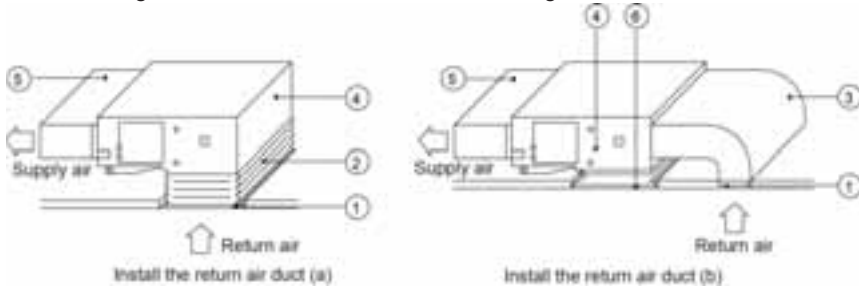

Fig. 4.36
- (5). More noise is likely to be produced in the bottom return air mode than the back return air mode, so it is suggested to install a silencer and a static pressure box to minimize the noise.
- (6). The installation method can be chosen by considering the conditions of the building and maintenance etc, as shown in Fig. 4.36.